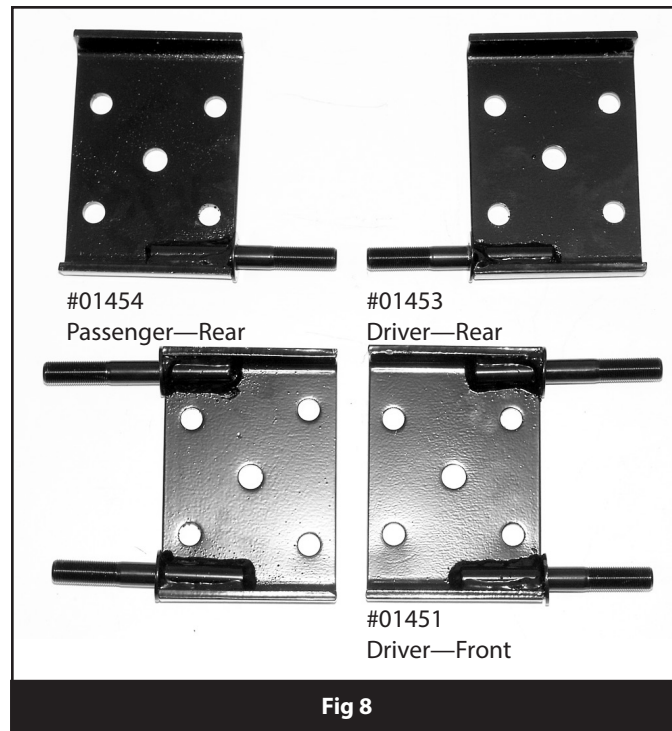

**Fig 6**
20. Follow manufactures instructions for installing shackles. Leave hardware loose. (Fig 6)